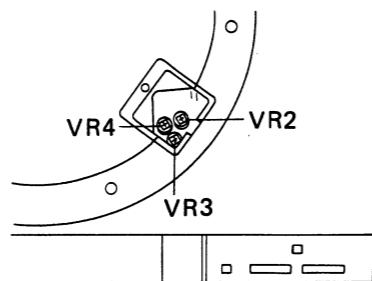

Fig. 11-1 Tracking sensor zero adjustment
2. Then move arm elevation up and down several times and return it to the up position. Check that the voltage across TP1 - TP2 does not exceed $\pm 2V$ (Fig. 11-1).
2. Keep the locate-in button (◀) depressed at the 1st level, and adjust VR4 so that the stylus tip moves at a rate of 50mm in 7.1 ± 0.7 seconds (Fig. 11-1).
3. In the same way, keep the locate-out button (▶) depressed at the 1st level, and adjust VR3 to again obtain at stylus tip movement of 50mm in 7.1 ± 0.7 seconds (Fig. 11-1).